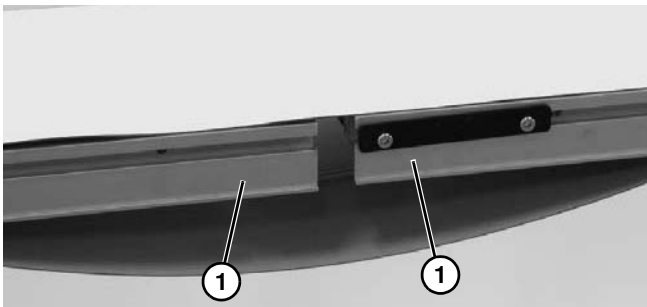

Figure 12
4. Roll out conveyor belt and place conveyor frame sections (**Figure 12, item 1**) into belt loop.